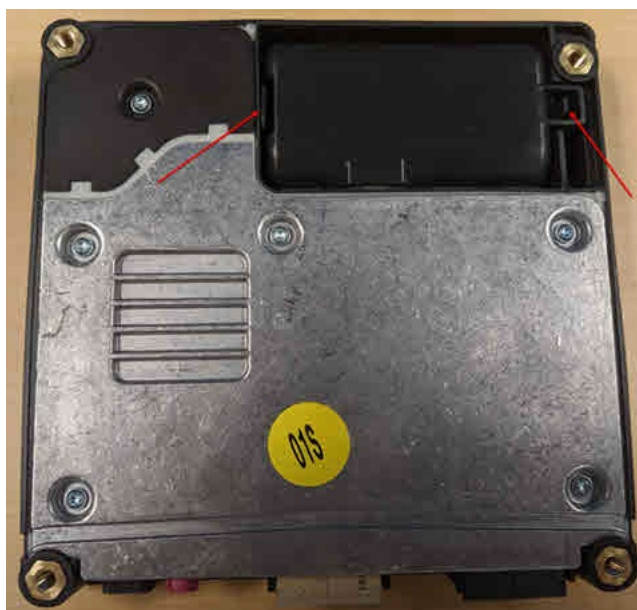

Figure 2. Backup battery compartment location.
2. Open the battery compartment of the telematics control module, J949 (address word 0075) and disconnect the backup battery (Figures 2 - 3).